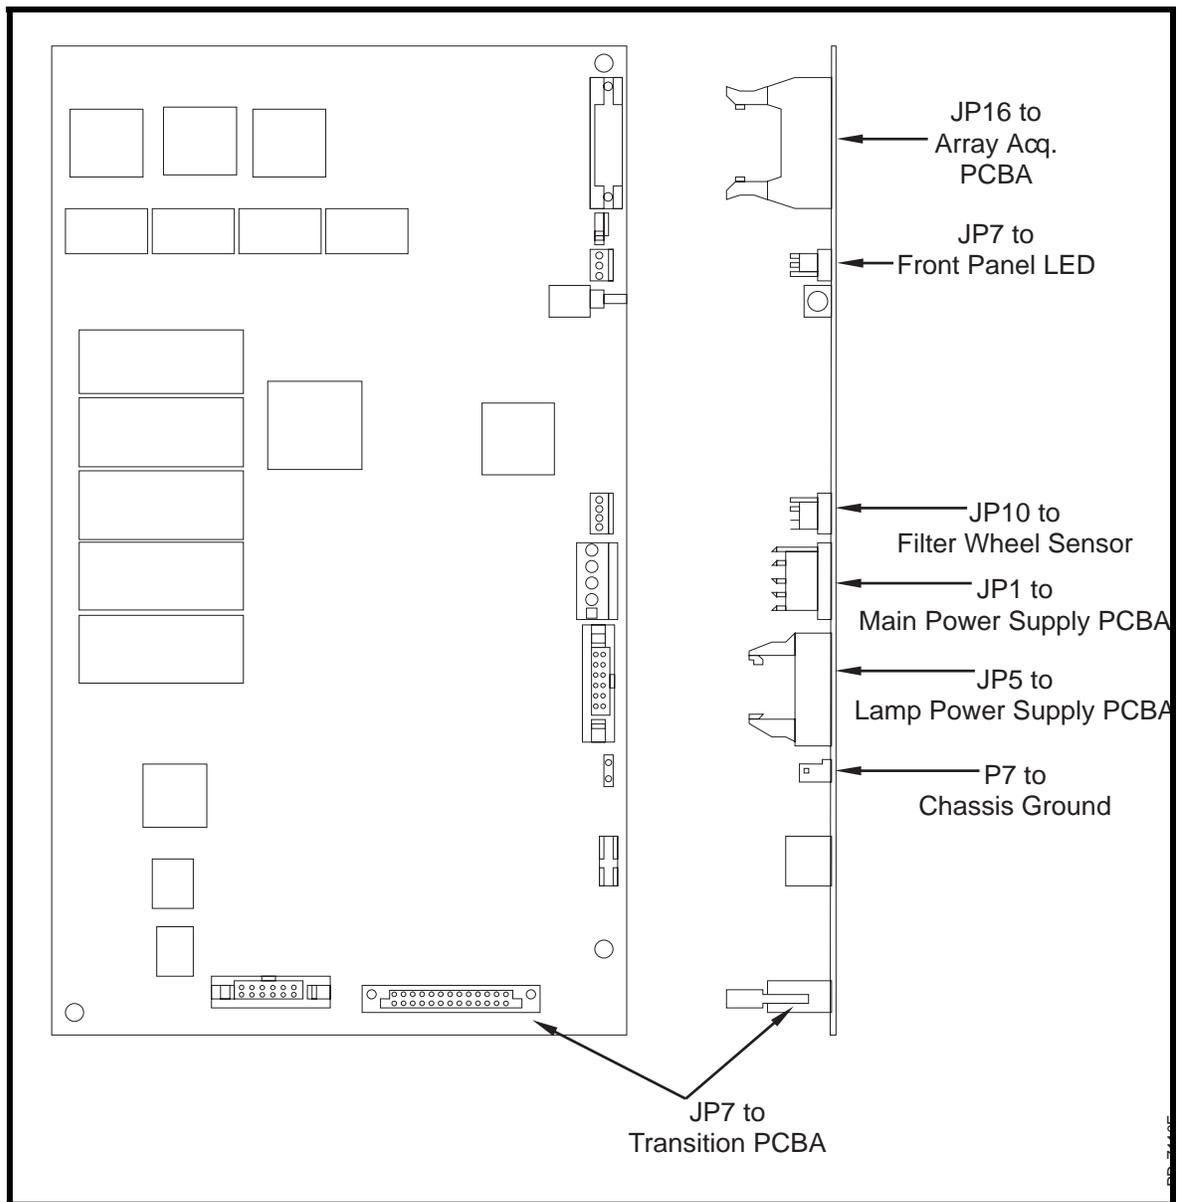

Figure 8.3 CPU PCBA Connector Layout
1. Disconnect the eight connectors across the top of the PCBA, (Figure 8.3) For the three ribbon-cable connectors, open and spread the retaining clips prior to removing.
4. Reconnect all cables, using Figure 8.3 to identify the proper connector locations. (All connectors are keyed and will only engage in one direction).
14. Connect the other end of the cable to the JP7 connector on the CPU PCBA (Figure 8.3).
Figure 8.10 identifies the replaceable cable assemblies inside the detector. Refer to Figures 8.3 and 8.4 to identify the proper PCBA connector locations.